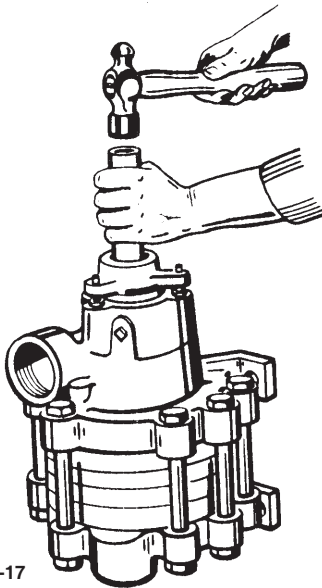

Figure 4-17
- 35. Keeping the pump upright, place a metal plate or other metal support piece beneath the shaft end (or work on a cement floor). Now drive the bearing arm assembly onto the shaft using a metal sleeve which contacts the inner race only. Drive the assembly down onto the shoulder and secure with three nuts (#20), tighten finger tight only. (refer to figure 4-17)